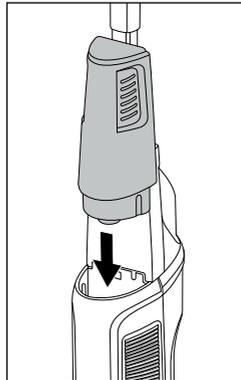

Fig. 11
- ◆ Flip the fresh water tank **1** over and slide it back into the opening at the top on the front of the appliance (see fig. 11).